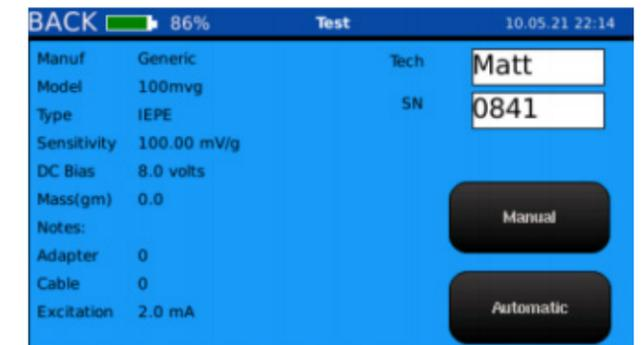

Figure 24. Sensor profile screen
5. Select the **Manual button** or **Automatic button** on the sensor profile screen (Figure 24).